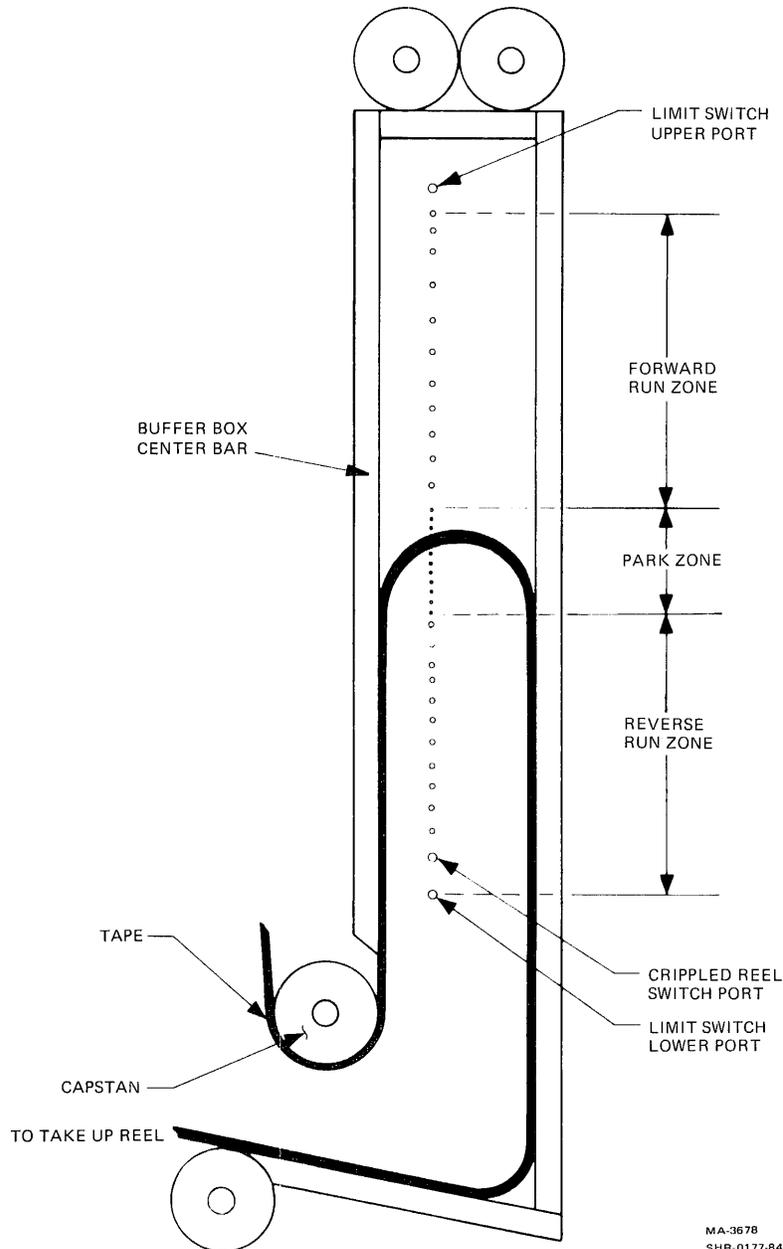

Figure 3-12 Buffer Column Park Zone
8. Manually rotate the supply reel clockwise to put tape into the supply buffer column. Rotate the reel so the tape forms a loop and the end of the loop is in the middle of the park zone. The park zone is the series of thirteen small holes in the center of the buffer column, shown in Figure 3-12. Hold the reel and apply masking tape to the outer flange and the transport to prevent the loop from being pulled down the buffer column by the vacuum.